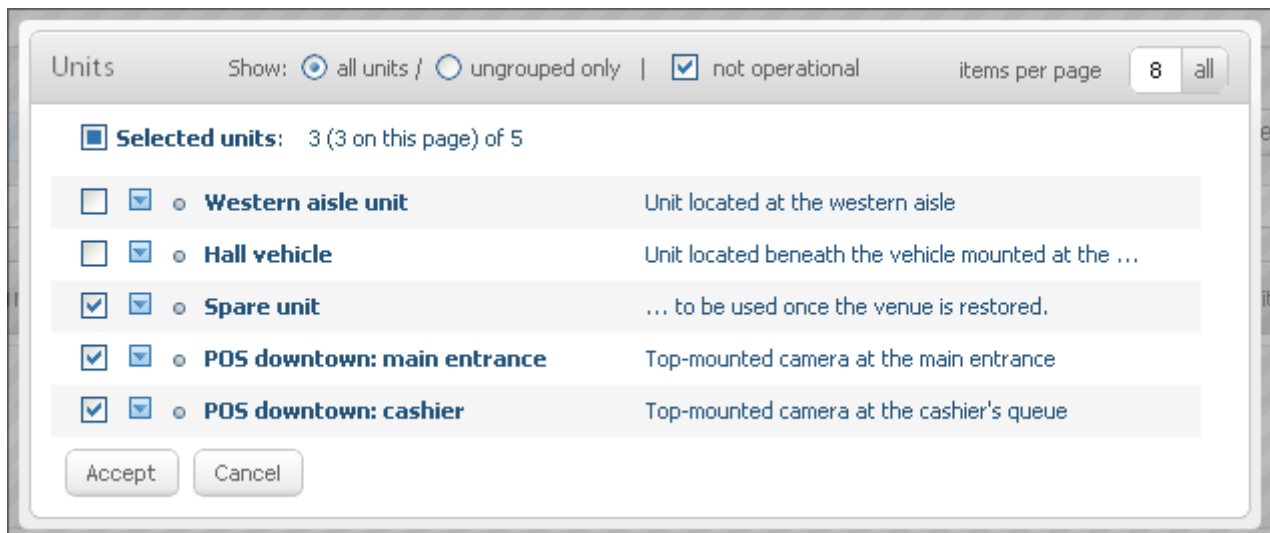

Figure 66: unit picker.
5. Pick the Measuring Units from the list and press the "Accept" button (Figure 66).